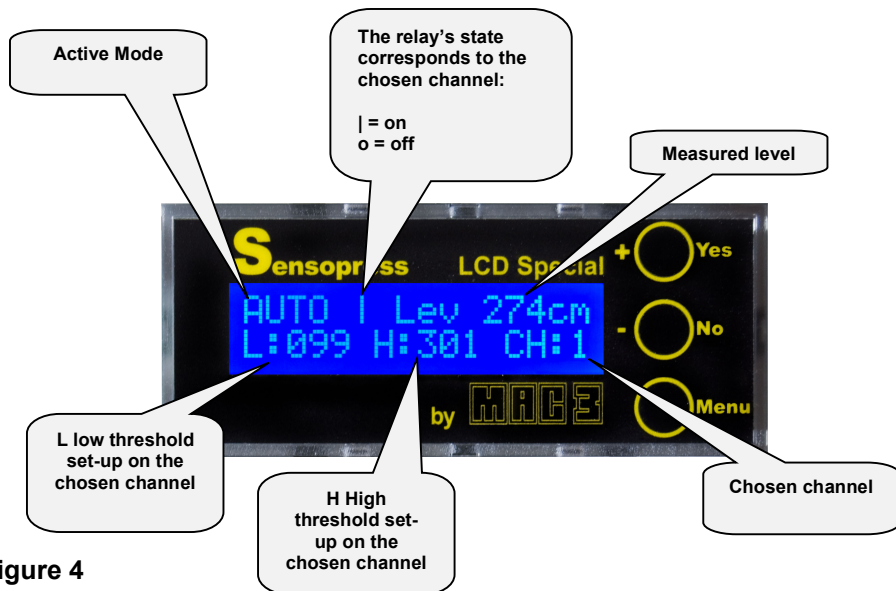

Figure 4
Just after the initial frame the device shows the frame corresponding to the **AUTO** Mode. The auto mode shows, how it is indicated in Figure 4, the following parameters:
- The relay's state corresponding to the chosen channel is specified on the display (on: |; off: o). In Figure 4 the relay is on.
- The measure in centimeters of the liquid's level. (274 cm in Figure 4).
- The low intervention's threshold referred to the chosen channel and specified on the display. In Figure 4, the low threshold for channel 1 is 99 cm .
- The high intervention threshold referred to the chosen channel and indicated on the display. In Figure 4 the high threshold for channel 1 is 301 cm.